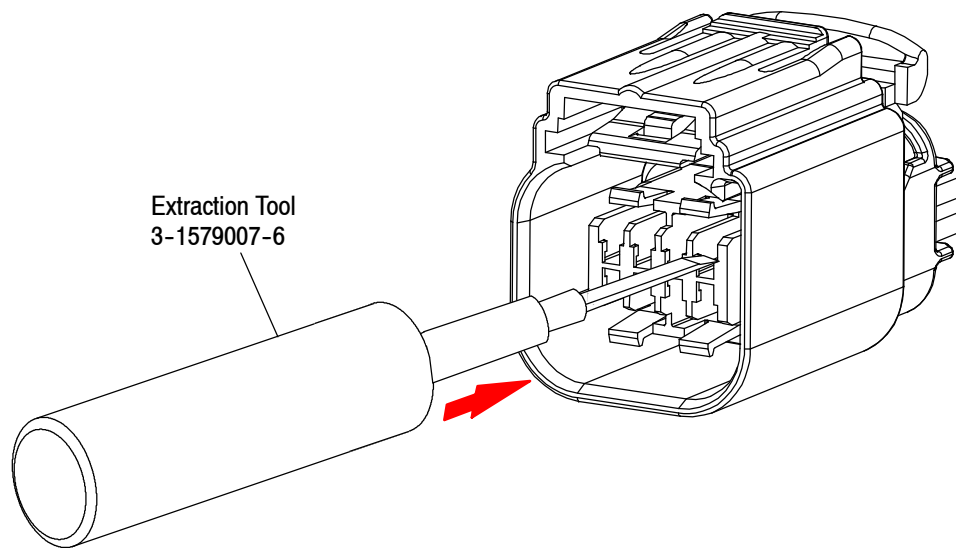

Figure 9
2. Place the extraction tool under the beam that holds the contact in place as shown in Figure 9.